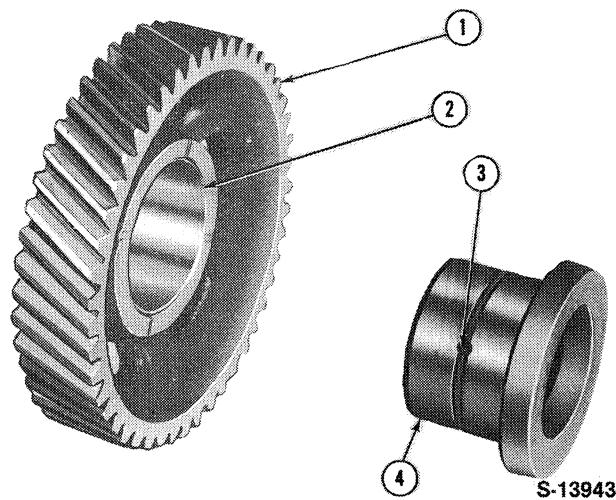

Figure 29
3. Be sure the camshaft idler gear adapter oil passage is free from obstruction and the gear bushing is not damaged, Figure 29.